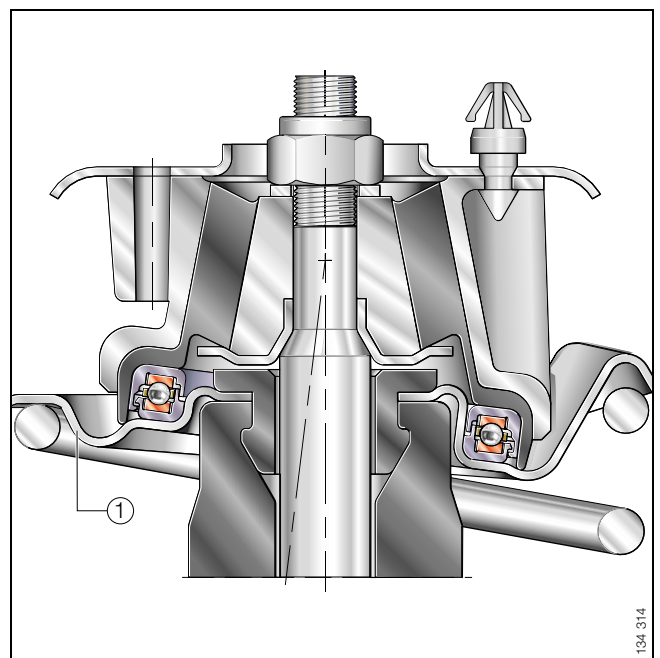

Figure 8 · Spring supported by spring plate – encapsulated suspension strut bearing
Figure 8 shows the spring supported by a spring plate ①.